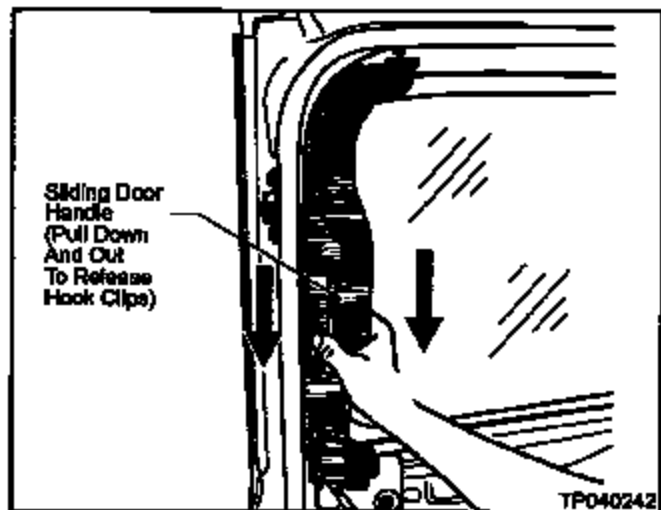

Figure J21
20. Carefully pull DOWN and OUT on the Sliding Door Handle to release it from the hook clips (see Figure J21).